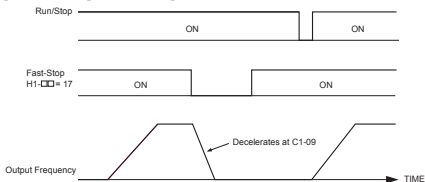

Figure 5.48 Fast-stop Sequence
*Figure 5.48* shows an operation example of Fast-stop.